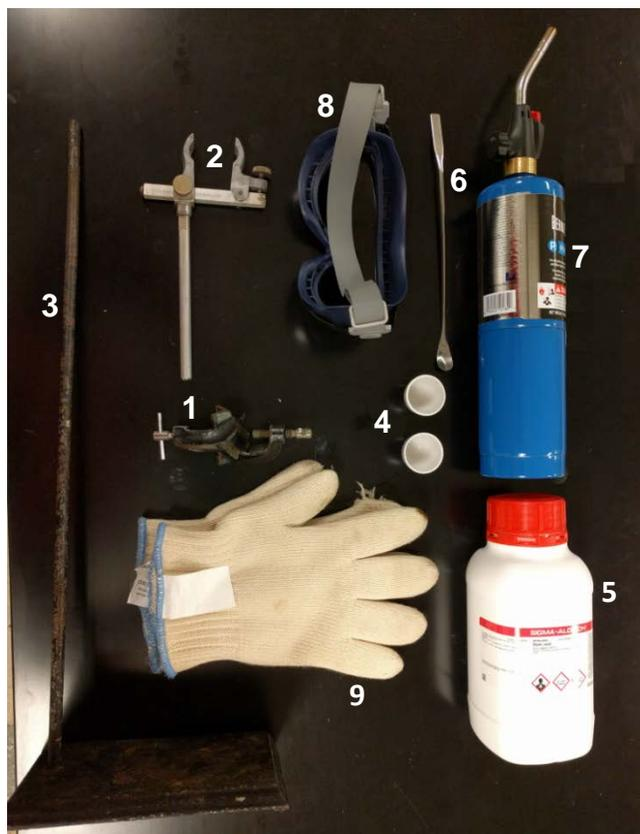

Figure 1
**Materials Required (Figure 1):**
- 1 Double-ended bosshead clamp (1)
- 1 Extension clamp (slide-ended) (2)
- 1 Laboratory flask stand (52 cm) (3)
- 1 Ceramic crucible, 15-30 mL (4)
- Boric acid powder (5)
- 1 scoopula (6)
- 1 propane blowtorch (7)
- 1 pair of safety goggles (8)
- 1 pair of heat-protected gloves (9)